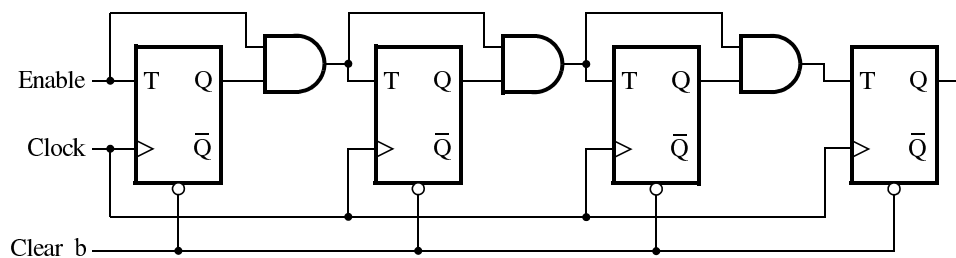

Figure 1: A 4-bit counter.
Consider the circuit in Figure 1. It is a 4-bit synchronous counter that uses four T-type flip-flops. The counter increments its value on each positive edge of the clock if the *Enable* signal is asserted. The counter is reset to 0 by setting the *Clear_b* signal low – it is an active-low asynchronous clear. You are to implement an 8-bit counter of this type.
2. Write a Verilog file that defines an 8-bit counter by using the structure depicted in Figure 1. Your code should include a T flip-flop module that is instantiated 8 times to create the counter (i.e. structural Verilog). Compile the circuit. How many logic elements (LEs) are used to implement your circuit? What is the maximum frequency, F_{max} , at which your circuit can be operated? (Use TimeQuest in Quartus to determine the maximum frequency F_{max} – Refer to the *Using TimeQuest Timing Analyzer* document found on the Altera website.)
6. Use the Quartus II RTL Viewer to see how the Quartus II software synthesized your circuit. What are the differences in comparison with Figure 1?